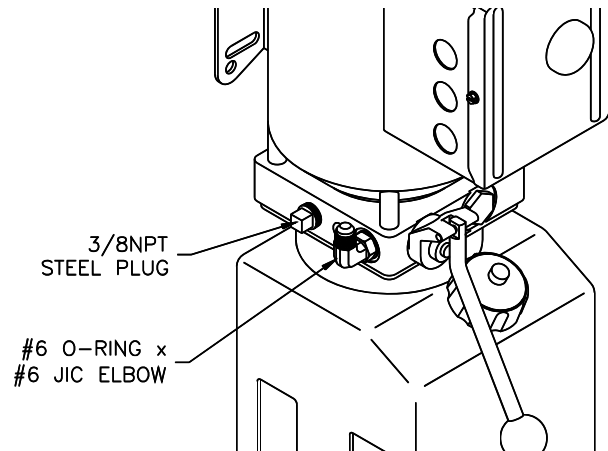

Fig 13 – Power Unit Connections
21) * Install power unit on right rear column. Remove steel pressure port plug, #6 O-ring port on left side when facing controls, and use it to replace the plastic shipping plug on the right side. Install #6 O-ring x #6 JIC elbow in left side pressure port, **Fig 13**. Remove plastic return port shipping plug, 3/8NPT on left side and install 3/8NPT steel plug, see **Fig 13**.